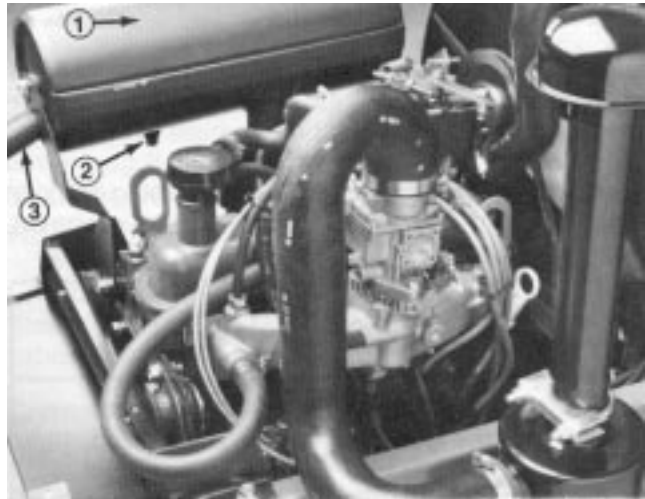

Figure 40
2. Remove pipe plug from clean-out port at lower side of muffler (Fig. 40).